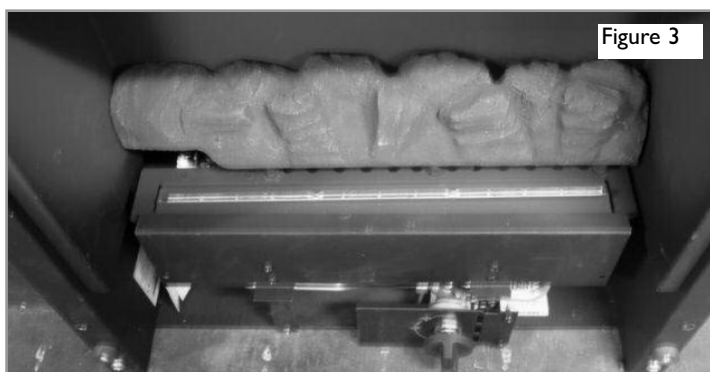

Figure 3
1. Place the rear coal strip onto the shelf behind the burner as shown in figure 3. Ensure that the four protruding screw heads engage the hollow areas on the underside of the piece.